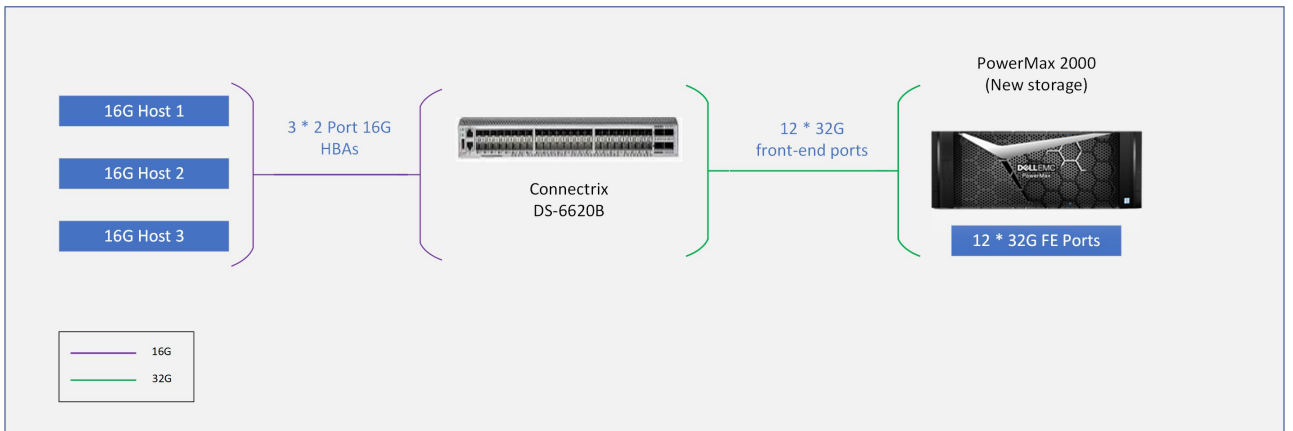

Figure 10 Mixed solution: 32GFC storage with 16G Hosts and 16GFC SAN switch
Figure 10 illustrates a typical pre-existing 16GFC compute that consists of PowerEdge servers with Fibre Channel Host Bus Adapter (HBA) ports attached to a single-switch Connectrix 32G Fibre Channel SAN. The storage is provided by a PowerMax with a Fibre Adapter (FA) front-end port running at 32Gb/s. Due to the 16GFC compute the end-to-end speed is negotiated to 16FC.